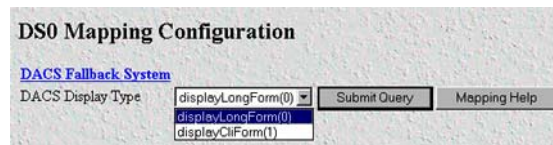

Figure 28. DS0 Mapping Configuration window
2. In the *DACS Display Type* drop-down menu (figure 28), select *displayLongForm(0)*.